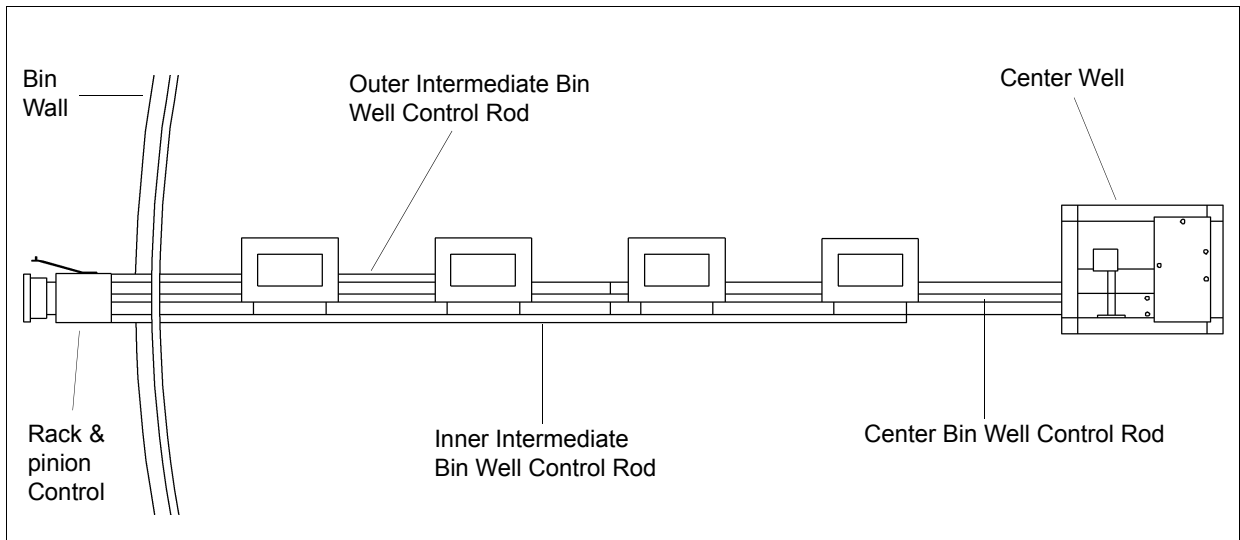

Figure 2D
1. Screw two (2) 1/2" rod sections together using an Internal Threaded Coupler, as shown *in Figure 2D*.